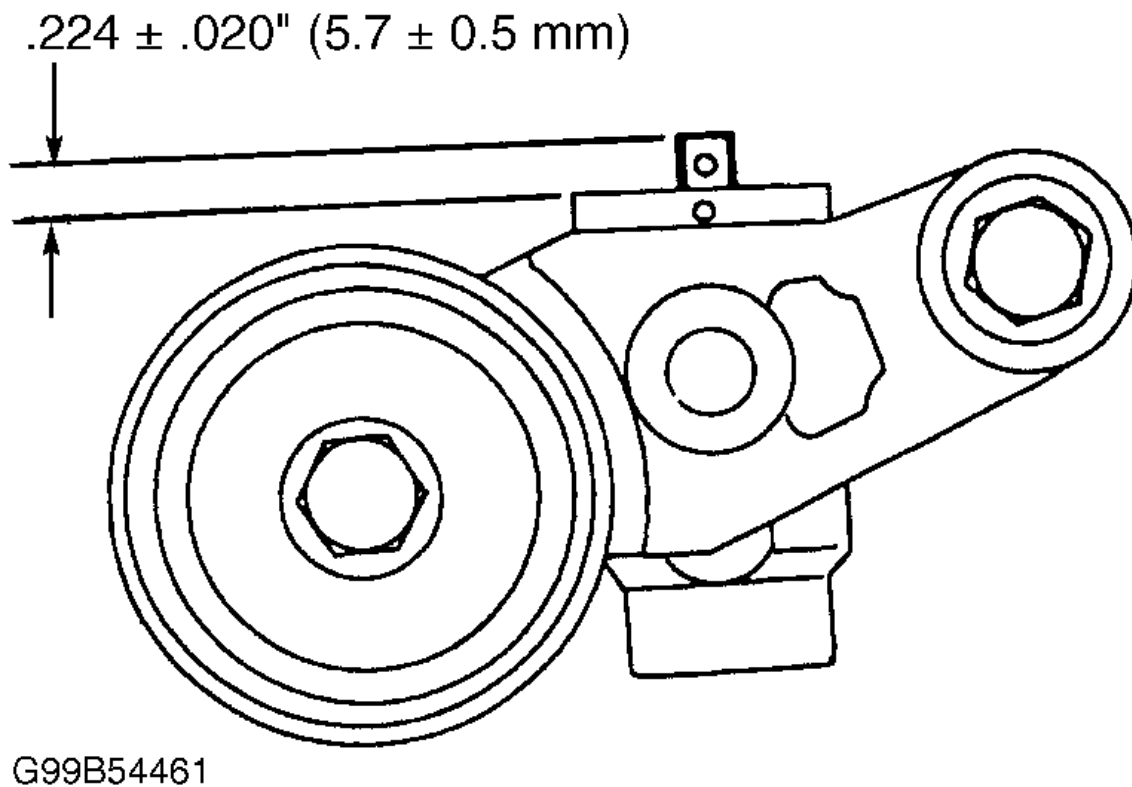

Fig. 5: Checking Automatic Tensioner Rod Extension
3. Measure extension of rod beyond tensioner body. Holding tensioner with rod facing up, rod extension should be .204-.244" (5.2-6.2 mm). See Fig. 5. Replace automatic tensioner if rod extension is not as specified.